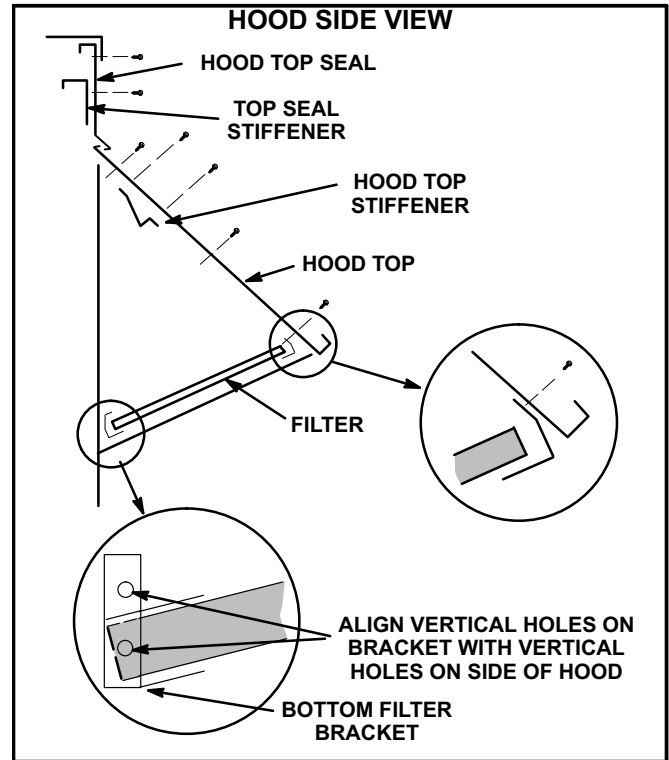

FIGURE 10
The outdoor air hood is packaged separately but attached to the damper assembly crate. Use #10 self drilling screws to install hood unless noted otherwise. Refer to figures 10, 11, 12, 13, and 14.
- 2- Secure top seal stiffener to back side of hood top seal. See figures 10 and 11.
- 5- Secure hood top stiffener to unpainted side of the hood top with ten screws. See figures 10 and 12.
- 6- Position the hood top edge V-channel under the corresponding V-channel on the hood top seal and slide into place from right to left. See figure 10 and 11.
- 12- Align the two holes on the left hood side with the two holes in the bottom filter bracket. See figures 10 and 13. Secure with screws.
- 13- Secure bottom filter bracket to right hood side in the same manner. See figures 10 and 14.
- 15- Secure the top filter bracket (long) to the hood top. See figures 10 and 12. Slide two filters into place.
- 16- Insert the third filter into the bottom filter bracket. Position the top filter bracket (short) as shown in figures 10 and 12. Secure the bracket to the hood top with screws.